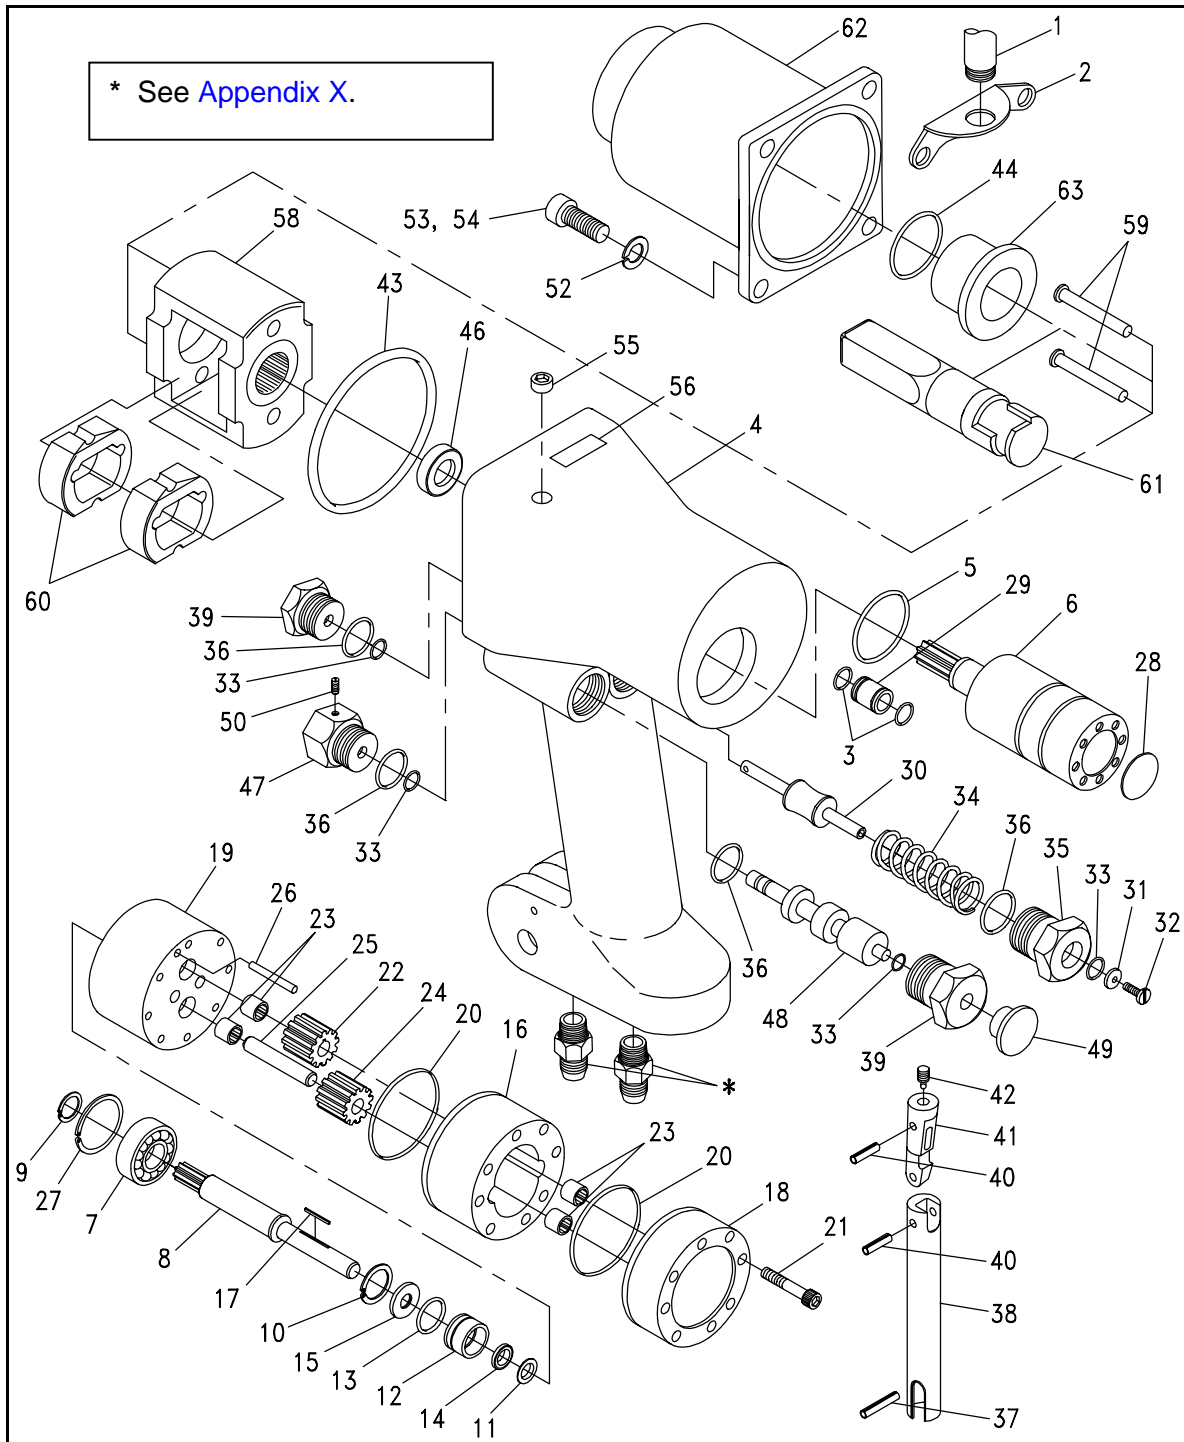

Figure N-3. IW20 Impact Wrench Components (Sheet 1).
- b. Install a new quad ring (33, Figure N-3) in detent cap (47) and seal cap (39).
- c. Install new O-ring (36) in seal cap (39).
- d. Lubricate non-threaded portion of reversing spool (48).
Figure N-3 illustrates the IW20 Impact Wrench Components.